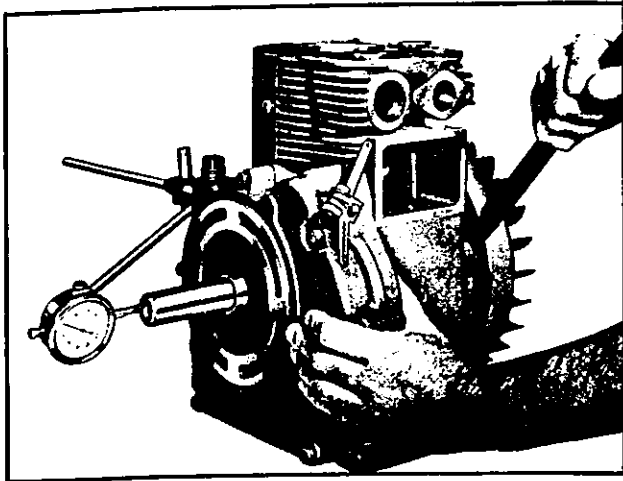

Fig. 44
**End play** is checked after crankshaft, gear cover and flywheel are mounted. The end play should be .001 to .004 inch with engine cold, and can be determined as illustrated in Fig. 44. Wedge a lever between the flywheel and crankcase, and move the crankshaft forward and backward against a dial indicator. If there is too much end play, a corresponding thickness of gasket will have to be removed from behind stator plate. Not enough end play and gasket will have to be added.